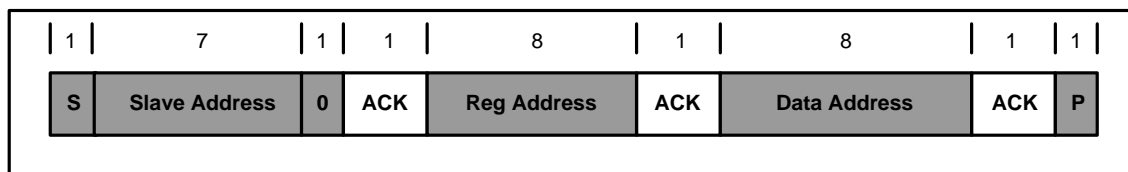

**Figure 9: 7-Bit Addressing**
After the start signal, a slave address is sent. This address is 7-bits long, and is followed by an 8th bit as a data direction bit (R/W). A 0 indicates a write (W) signal transmission, while a 1 indicates a read (R) signal data request. Figure 9 shows the address bit arrangement.